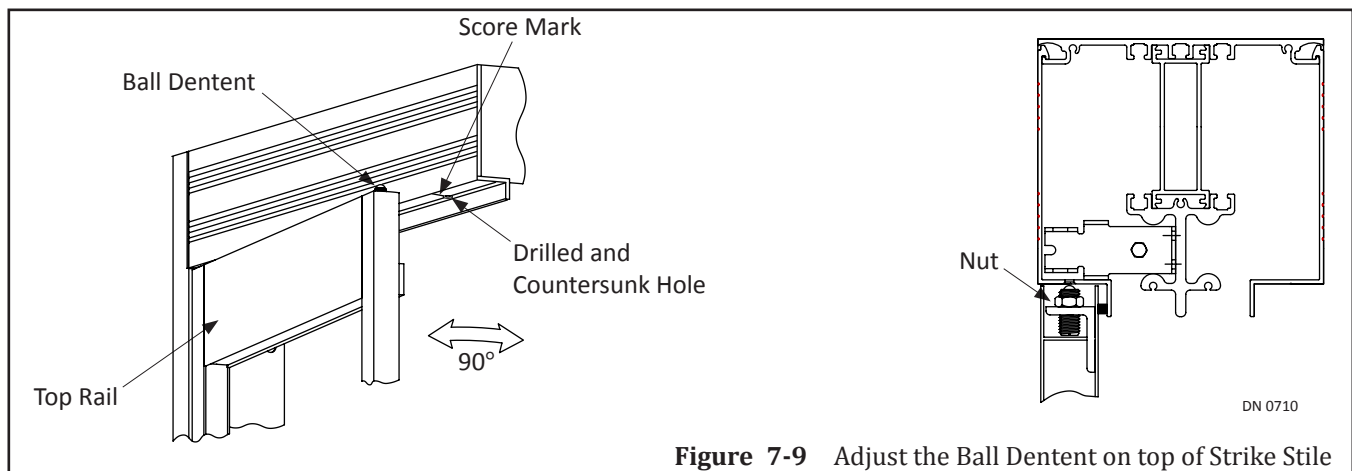

**Figure 7-8** Install the Limit Arm to Bottom Lip of Cover
1. Close and secure the Header Cover with (1) screw that was saved for reinstallation.
4. Slide (1) Spacer onto the Red Coated Screw. Please see Figure 7-8.
6. Slide (1) small Washer and (1 - 2) large Washers (as required) onto the Red Coated Screw.